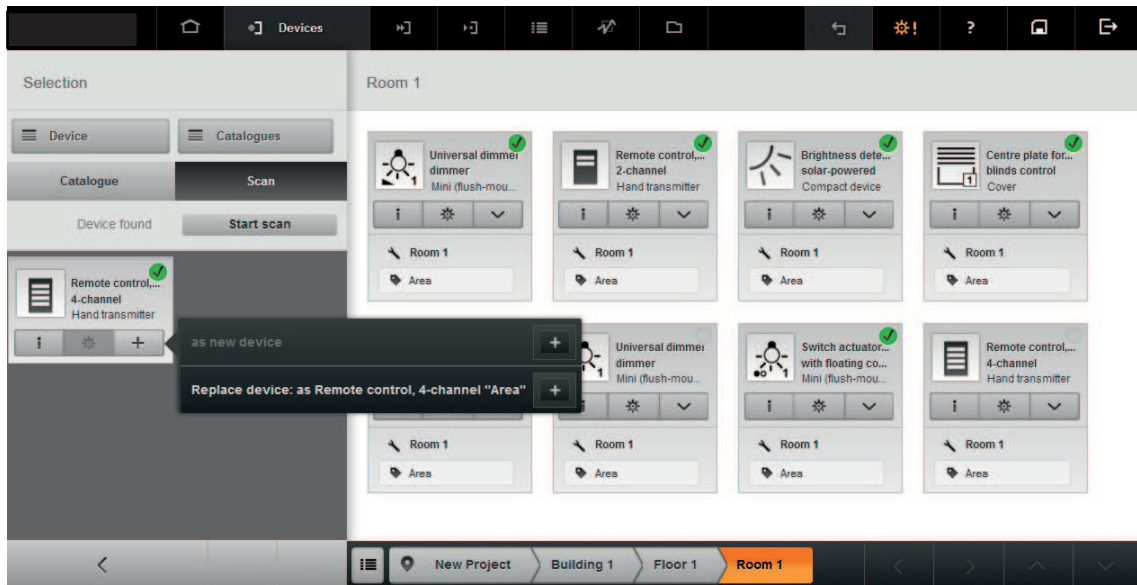

Figure 42: Adding a device from a system scan to an installation location
- Select the **+** button in the device tile or pull the device into the installation location by drag & drop (Figure 42).
- ❏ If there are multiple options for adding the device, the function selection opens. Select the **as new device** function (Figure 42).
The function selection is opened (Figure 42). The catalogue device is listed behind the function **Replace device: As** together with its installation location.
- Select the  button in the device tile (Figure 42).